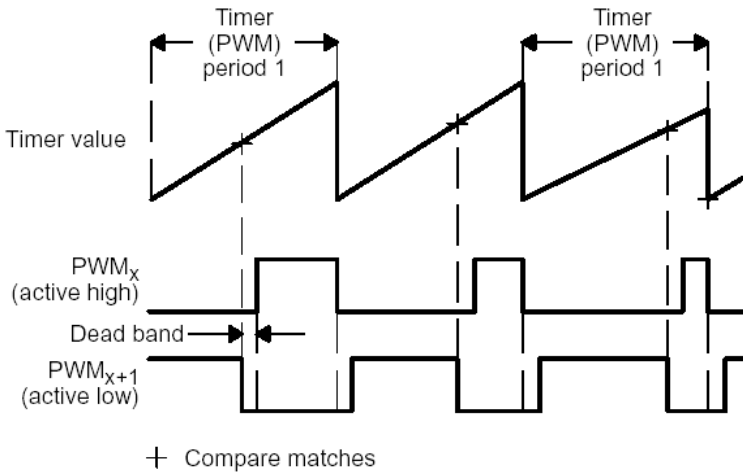

Figure 6.13 Dead-band with an asymmetric PWM output.
- One 16-bit dead-band control register, DBTCON_x (RW)
Figures 6.13 and 6.14 illustrate the addition of a dead-band in both asymmetric and symmetric PWM outputs. The toggling sequence might go as follows: (1) toggle first output, (2) delay for a certain “dead-band” of clock cycles, (3) toggle the second output pin. This addition of a proper amount of dead-band prevents a short circuit across an inverter leg.